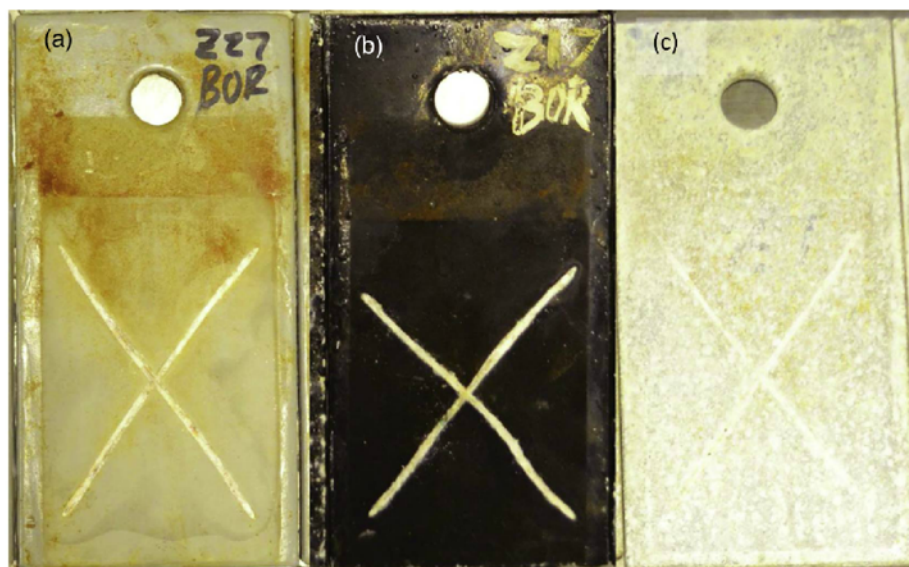

Fig. 3: Effect of thick seal coat: Zinc systems tested in the BOR cycle after 5,040 hours. (a) epoxy seal, (b) urethane seal, (c) unsealed
- **Effect of Seal Coat:** The thick seal coat appeared to prevent the oxidation of the underlying coat. This was most evident for the zinc-based systems (Fig. 3). However, some chalking and UV degradation were observed on both systems.